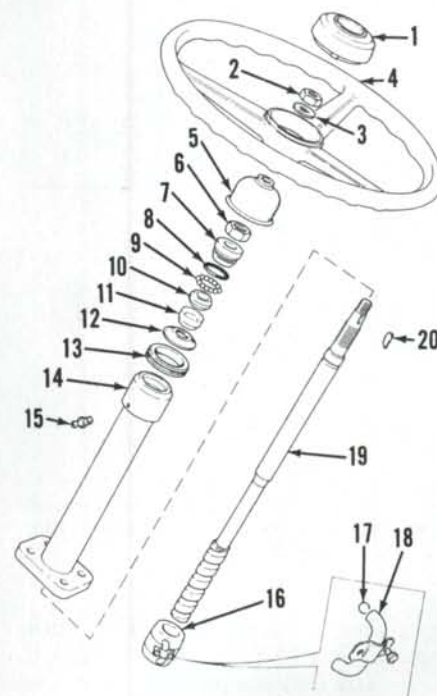
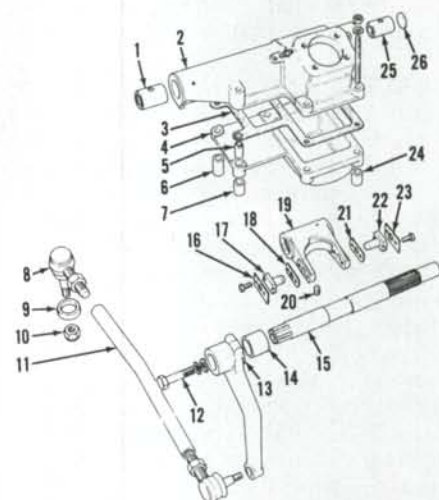
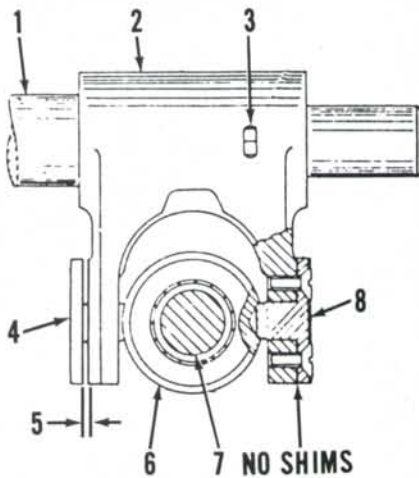

Fig. 43—Exploded view of steering column and related parts for 1190 models equipped with manual steering.
Fig. 44—Exploded view of steering box and its related parts used on 1190 models with manual steering.
Fig. 45—View showing method of selecting shims for correct ball nut preload. Refer to paragraph 53 for procedure.
50. To remove steering gear unit, remove steering wheel (4—Fig. 43) and dust seal (5). Disconnect controls and wiring to instrument panel. Remove drop arm (13—Fig. 44) and unbolt and remove instrument panel as a unit. Unbolt and remove steering gear assembly from transmission noting spacer (6, 7 and 24—Fig. 44) placement.
51. **DISASSEMBLY.** With steering gear and steering wheel removed, remove locknut (6—Fig. 43) and unscrew adjustable bearing cone (7). Remove the 12 loose bearing balls (9). Remove both ball nut pegs (17 and 22—Fig. 44) and shims (18 and 21), then withdraw steering shaft (19—Fig. 43) and ball nut assembly (16) from bottom of unit. Lower bearing race (10) and spherical seat (11) can now be removed from steering column (14) and rubber baffle (12) from steering shaft (19). Unscrew ball nut assembly (16) from steering shaft (19) and retrieve the 28 loose steel balls (17). Remove locating screw (20—Fig. 44) and withdraw cross-shaft (15).
If cross-shaft bushings (1 and 25—Fig. 44) are to be renewed, note size and location before removal for proper in-
52. REASSEMBLY. Remove transfer tube (18—Fig. 43) and place ball nut (16) over ball track on lower end of steering shaft (19). Insert steel balls (17) into ball nut until full, place remaining balls in transfer tube (18) with grease and fit tube to ball nut. Place rubber baffle (12) in groove on steering shaft and insert up through housing.
Position rocker arm (19—Fig. 44) in steering box (2) with stop down. Reinstall cross-shaft (15) and secure with locating screw (20).
53. BALL NUT PEG PRELOAD. Install one ball nut peg (8—Fig. 45) minus shims (18 and 21—Fig. 44) and tighten the two cap screws securely. Install second ball nut peg (4—Fig. 45) and tighten the two cap screws evenly only until inner end of peg causes ball nut to lightly bind. Using a feeler gage, measure gap between ball nut peg (4) and rocker arm (2). See 5—Fig. 45. Shims (18 and 21—Fig. 44) to be used in final assembly should be 0.025-0.076 mm (0.001-0.003 inch) less than measured gap (5—Fig. 45). Divide shims as equally as possible between the two ball nut pegs (17 and 22—Fig. 44) for installation and secure bolts with tab washers (16 and 23).
54. STEERING SHAFT END PLAY. Insert spherical seat (11—Fig. 43) on steering shaft (19) with flat face down, then install lower race (10) with round face in spherical seat (11). Drop in the 12 loose bearing balls (9). Install "O" ring (8) in groove of adjustable bearing cone (7) and thread onto steering shaft
55. ADJUSTMENT. Drag link ends are serviced as a unit only and must be renewed as such. Adjust length of drag link (11—Fig. 44) so spindle contacts stop on axle before internal steering gear stops wheel movement.